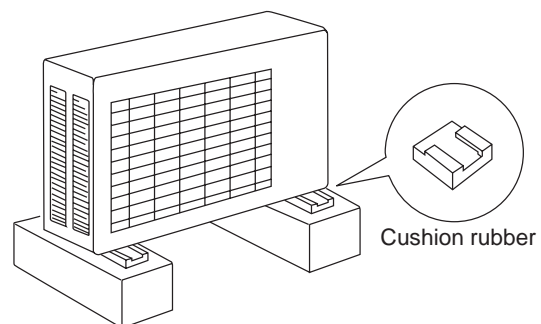

Fig. 5b
- install cushion rubber under unit's feet to reduce vibration and noise. (Fig. 5b)